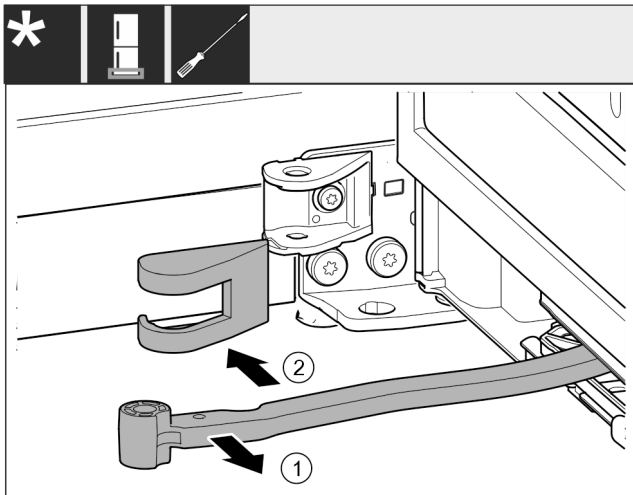

Fig. 14
- Turn the hinge in the direction of the door. Fig. 14 (1)
- Remove the bearing bracket cover. Fig. 14 (2)